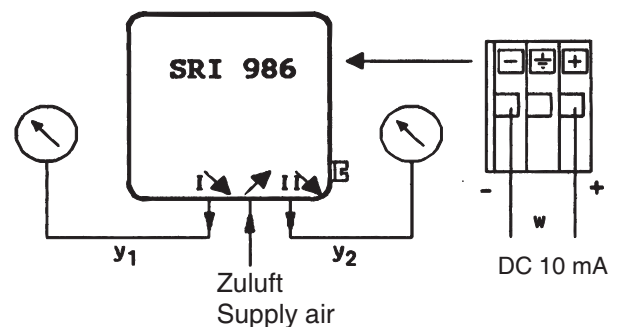

Fig. 25: Test circuit for double acting positioner
- Connect positioner as shown in the test circuit, fig. 25, preset supply air to 6 bar.